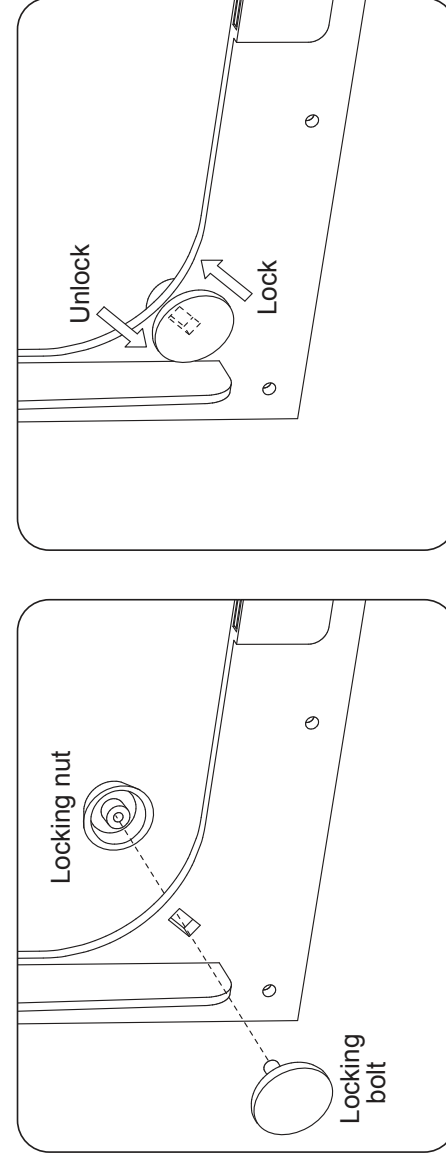

FIG. 4
- Insert the black locking bolts through the rectangular slots in the bottom corners of the Magnador™ frame. (Fig 4)